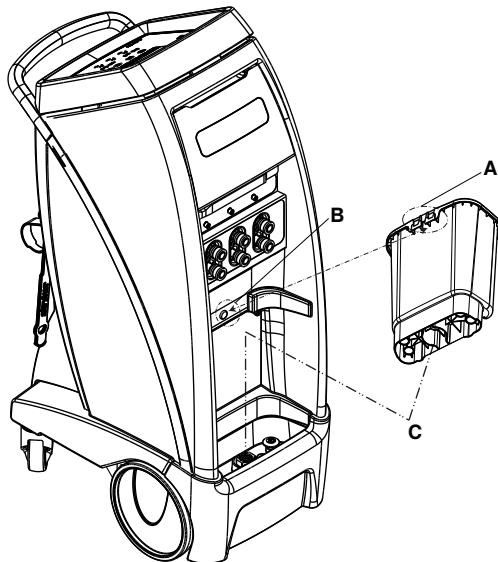

Figure 8: Removable reservoir
To remove the reservoir, pull forward at an angle, and lift out the reservoir (Figure 8 on page 18).
1. To replace the reservoir, align the base of the reservoir over the drain (C).
2. Align the notch on the back of the reservoir (A) with the hook on the controller (B) (Figure 8 on page 18)